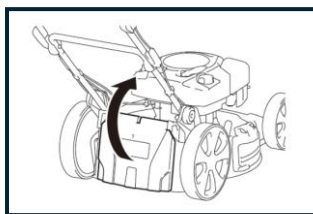

FIG 8A
7.2.1 Turn the rear protective plate, assemble the chute flap, and close the rear discharge guard as shown in Figures 8A, 8B, and 8C.